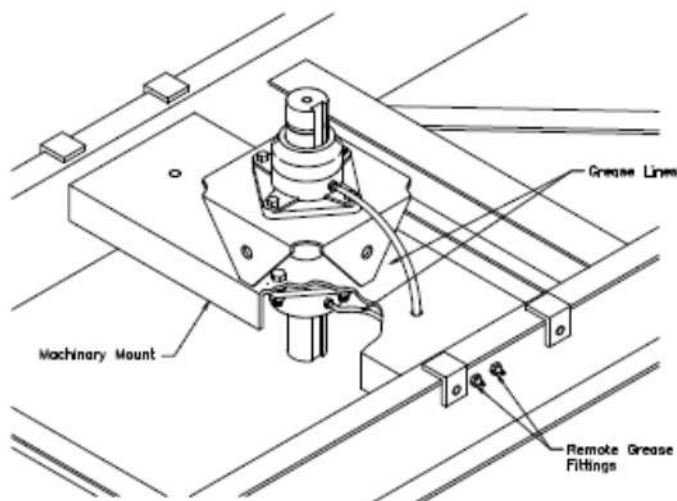

FIG.C3-GREASE LINE
4. Install grease lines to fan shaft bearings. See Fig.C3 and "FAN & MOTOR SUPPORT DRAWING" section of Parts List for grease line fittings and couplings.